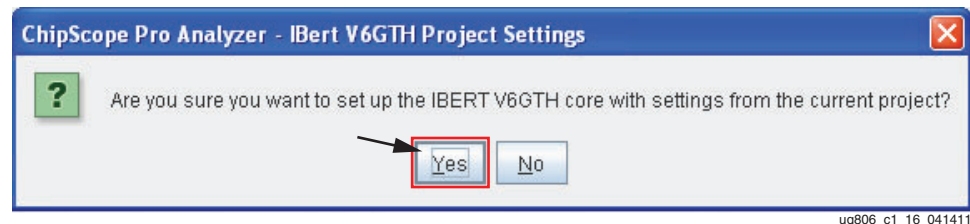

Figure 1-16: IBERT V6GTH Project Settings
8. When the dialog appears asking to set up the core with the settings from the current project, click **Yes** (Figure 1-16).